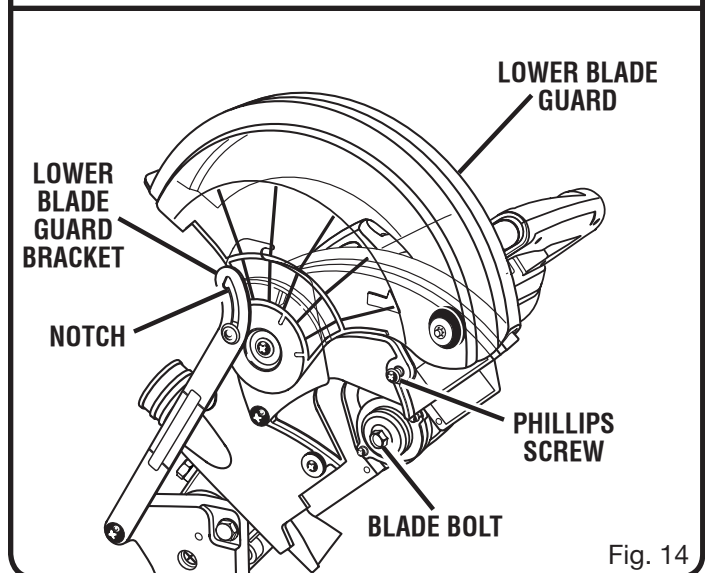

Fig. 14
- Gently raise the lower blade guard bracket, releasing lower blade guard from notch so that lower blade guard and blade bolt cover can be rotated up and back to expose the blade bolt. See Figure 14.
- Gently raise the lower blade guard bracket, releasing lower blade guard from notch so that lower blade guard and blade bolt cover can be rotated up and back to expose the blade bolt. *See Figure 14.*